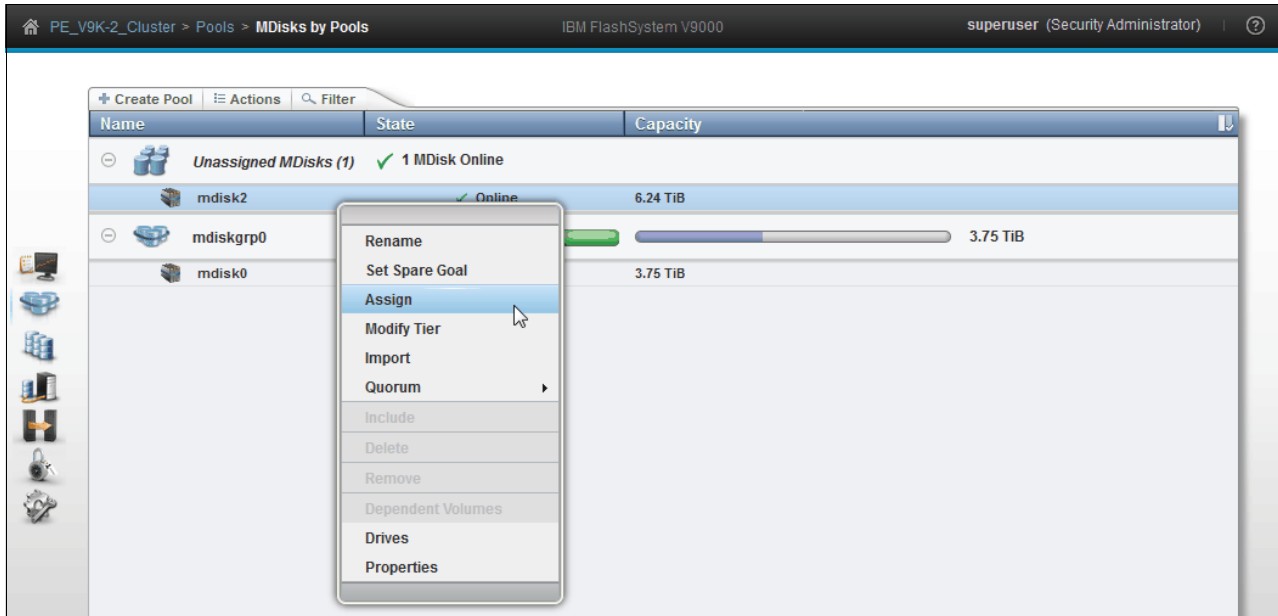

Figure 8-60 Select `mdisk2` and assign to storage pool
5. Select the unassigned MDisk, `mdisk2`. Either select `mdisk2` and select **Actions** → **Assign**, or right-click `mdisk2` and then select **Assign**, as shown in Figure 8-60.